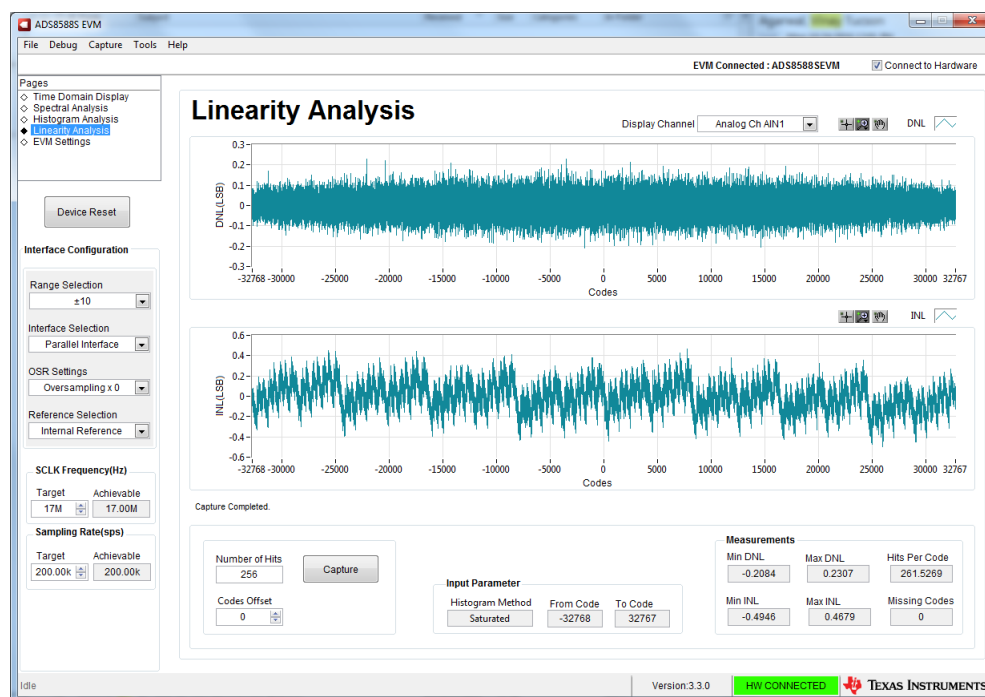

Figure 15. Linearity Analysis Tool
The *number-of-hits* setting depends on the external noise source. For a 100-dB SNR external source with approximately 30 μV_{RMS} of noise, the total number of hits must be 256. The linearity analysis tool is shown in Figure 15.
- Added missing figure number and caption for Figure 15 19